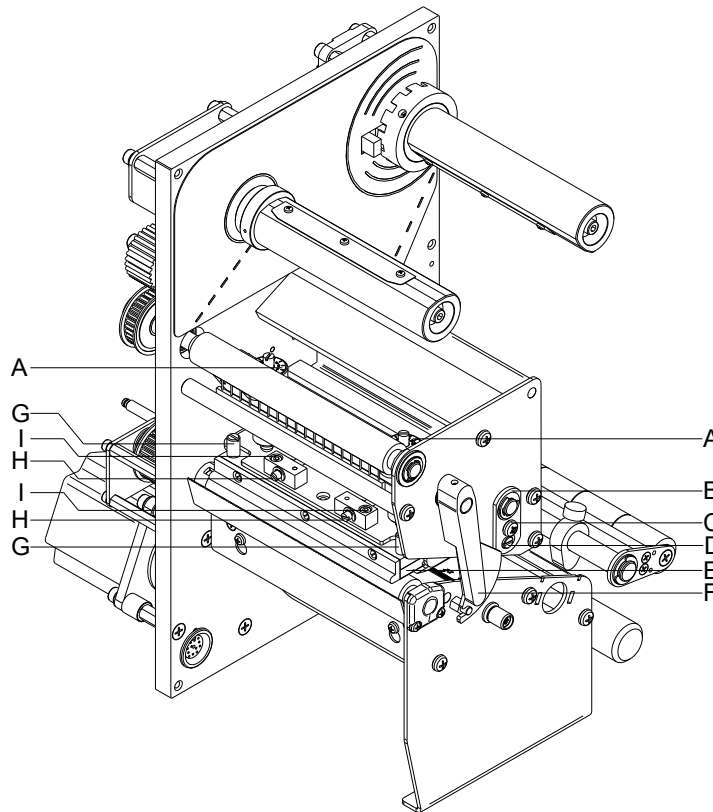

Figure 17
1. Loosen the screws (I, Figure 17) with a hexagon key by approx. $\frac{1}{4}$ rotations.
2. Adjust the parallelism with the adjusting screws (H, Figure 17).
4. Tighten again the screws (I, Figure 17).
After adjusting parallelism and no even strong pressure exists over the complete print width, by means of a plate (B, Figure 17) you can set the balance as follows:
1. Loosen the screw (C, Figure 17) with a screwdriver by approx. $\frac{1}{4}$ rotations.
2. In order to achieve a pressure balance, turn the excentric bolt (D, Figure 17) as long as the printing result comes up to your full expectation.
3. Tighten again the screw (C, Figure 17).
1. Turn the pressure screws (A, Figure 17) to change the pressure of printhead.
2. Turning the pressure screws (A, Figure 17) as far as they will go in clockwise direction results in a pressure increase of 10N in contrast to the factory setting.
3. Turning the pressure screws (A, Figure 17) from the limit stop counter clockwise to the corresponding scale value (see table) result in the factory settings.